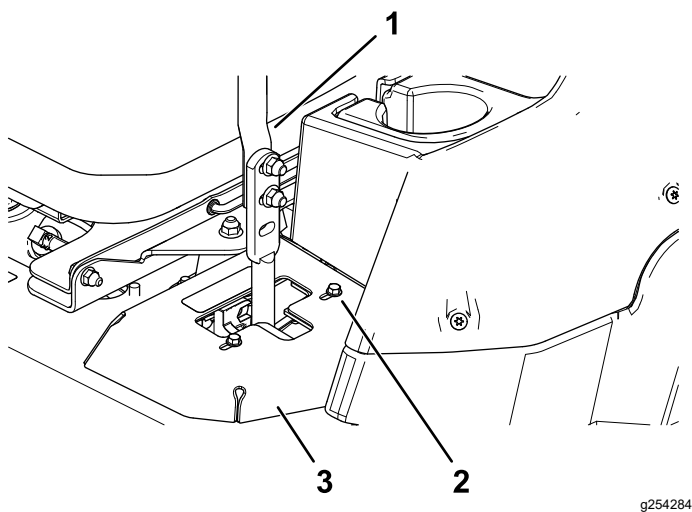

Figure 49
- If the machine tracks to the right, loosen the bolts and adjust the left stop plate rearward on the left T-slot until the machine tracks straight (Figure 49).
- If the machine tracks to the left, loosen the bolts and adjust the right stop plate rearward on the right T-slot until the machine tracks straight (Figure 49).
8. Tighten the stop plate (Figure 49).